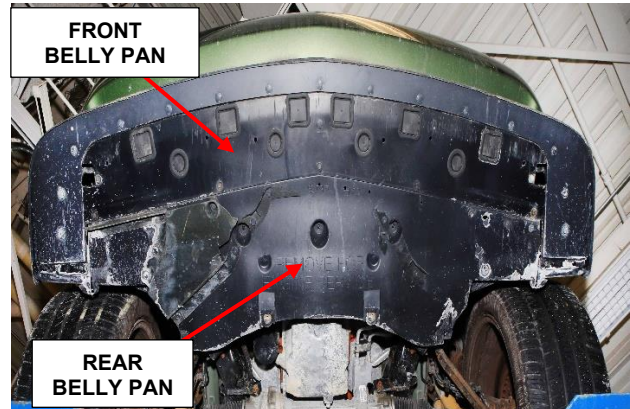

Figure 3 - Underbody
6. Remove the front and rear belly pan fasteners and remove pans (Figure 3).